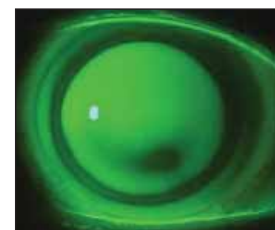

Figure 9: SynergEyes KC lens with peripheral touch
3. Peripheral touch - if you observe touch towards the periphery of the RGP portion of the lens (Figure 9), due to the